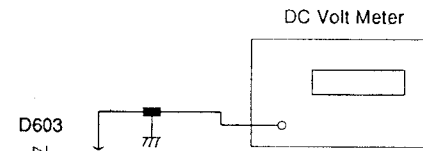

Fig. 1
1. Connect the equipment as shown in Fig. 1.